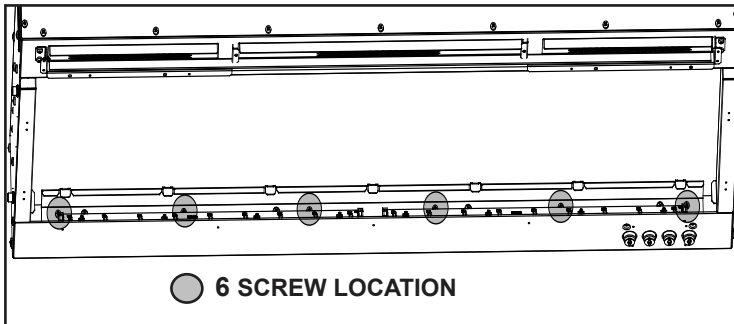

Figure 11. Fuelbed LED Light Board Screw Location
2. Remove six (6) Phillips screws that attach the Fuelbed LED Light Board to the chassis. See Figure 11.